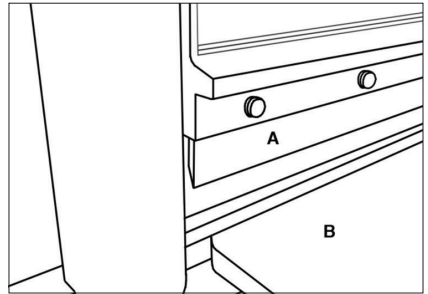

FIGURE 14
2. Once blade has been sharpened or replaced, it can be re-installed. Position the blade (Fig. 14-A) with its flat edge facing the table (Fig. 14-B). Make sure the mounting surface and blade are clean, re-install the blade with the seven allen head screws removed earlier using the supplied hex key.